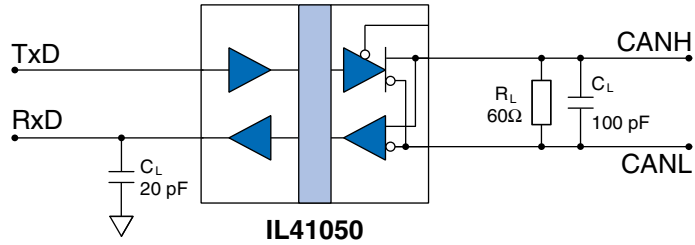

Figure 1. Timing characteristics test circuit.
**Timing Characteristics** (60 Ω / 100 pF bus loading; 20 pF Rx/D load; see Fig. 1)
Timing parameters are measured with  $60\ \Omega / 100\ \text{pF}$  bus line loading and  $20\ \text{pF}$  on RxD as shown in Figure 1 below: